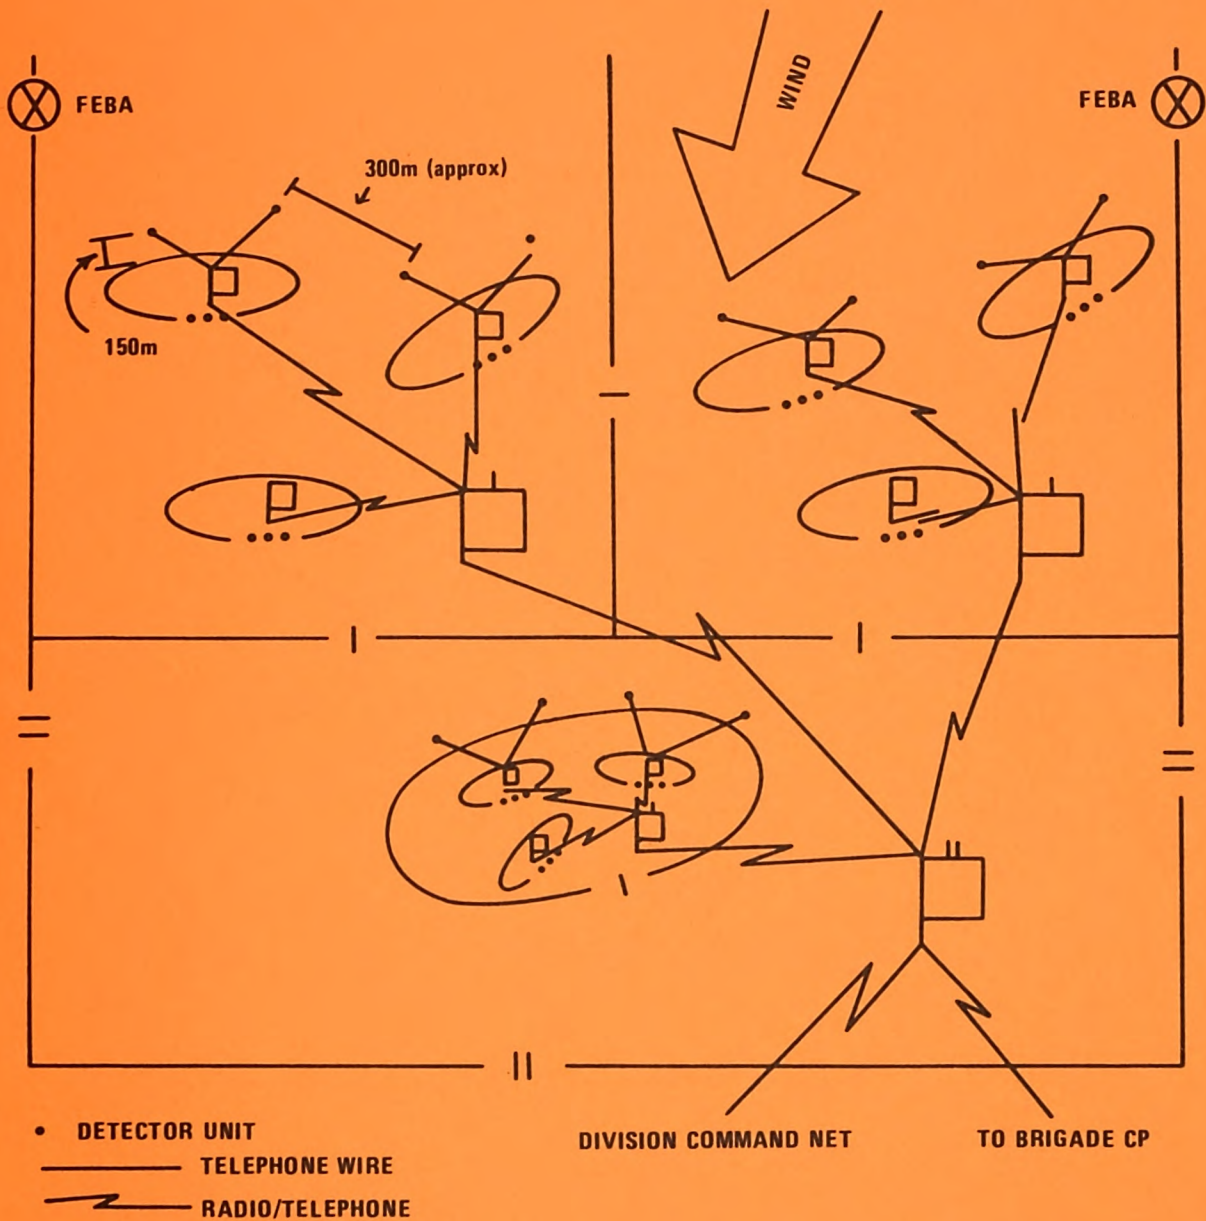

Figure 2. Typical organization of an automatic chemical agent alarm system for the company in defense.
3. Employment. A typical organization of an automatic chemical agent alarm system for the company in the defense is illustrated in figure 2. If the prevailing wind changes, the detectors must be moved accordingly. The detector can be mounted on a vehicle or carried by hand/backpacked when the unit is on the move.